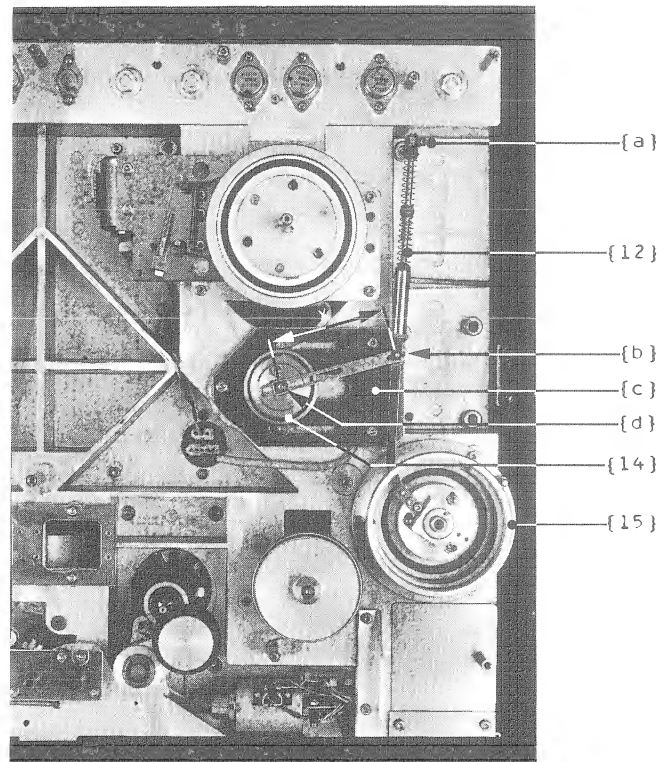

Fig.3.9
-> Fig.3.9
Adjustment -> Fig.3.9